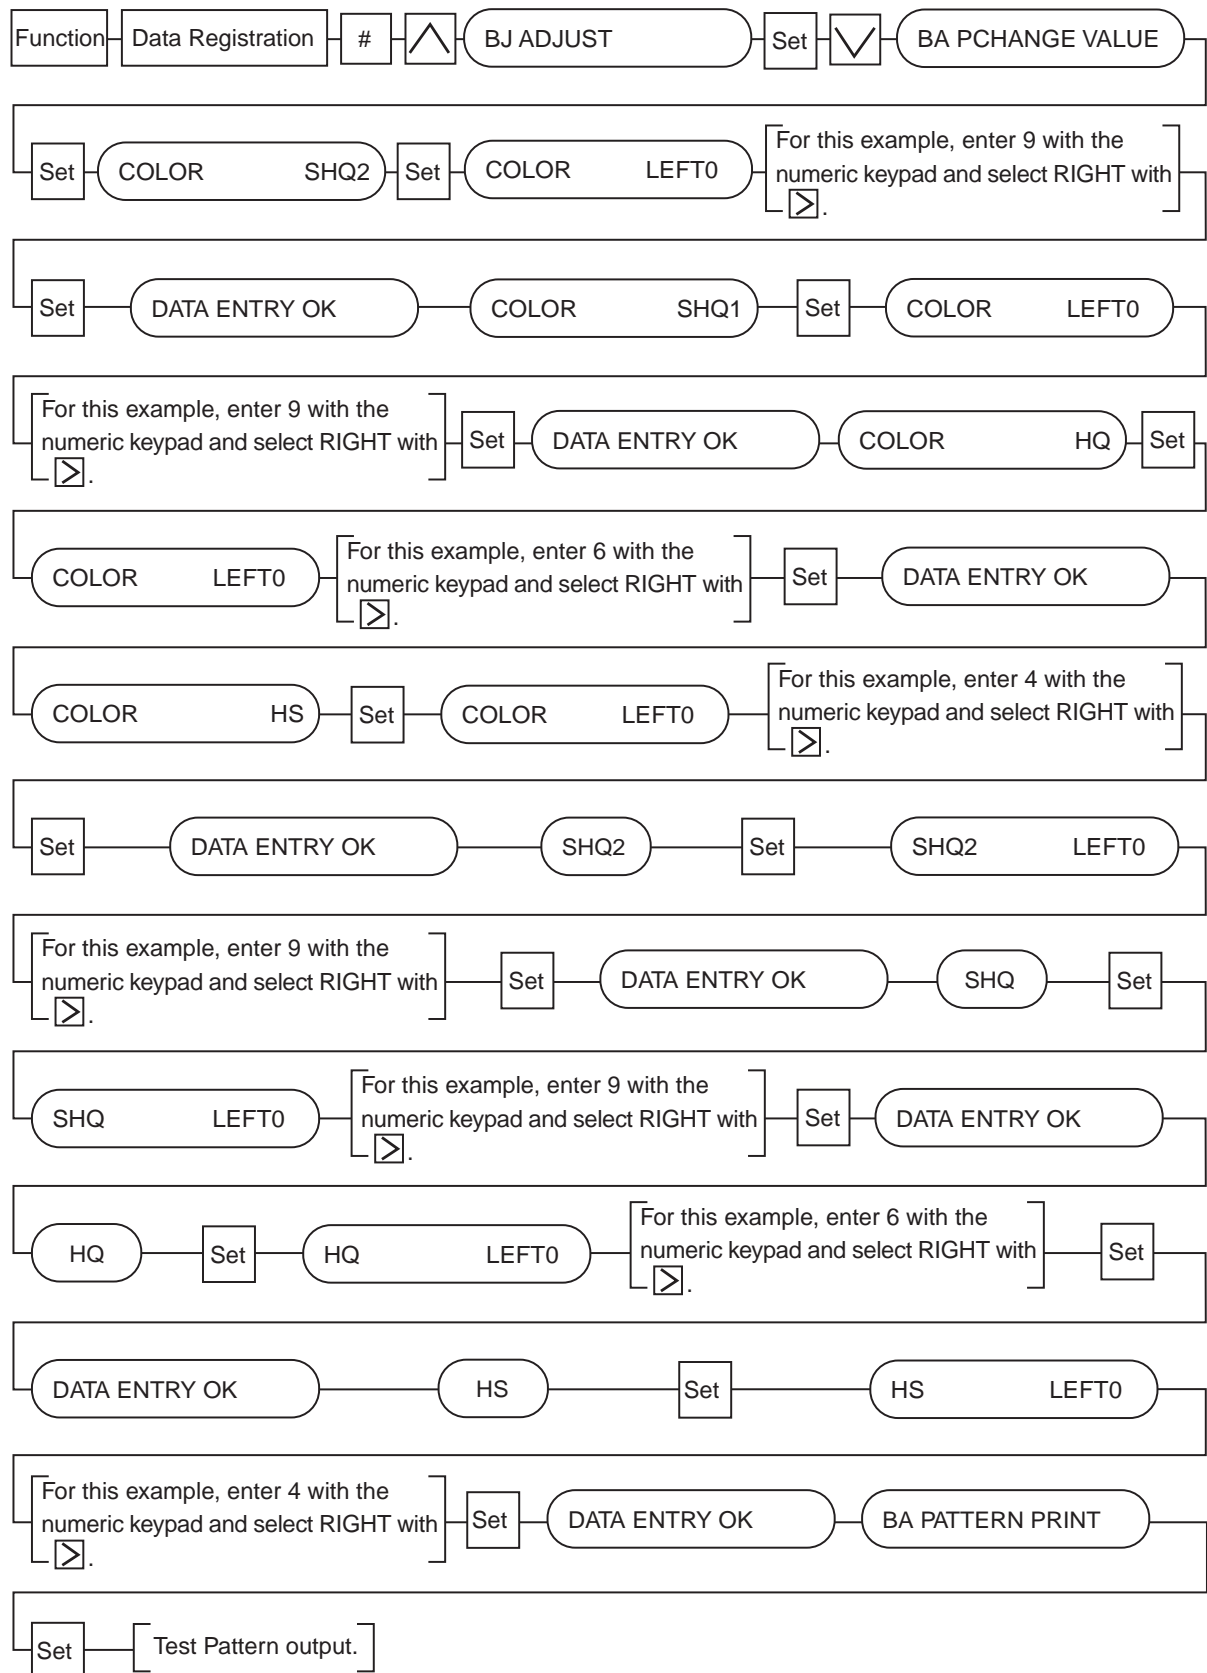

Figure 3-7 Vertical Line Misalignment Correction Procedure
- (3) As shown in *Fig. 3-7*, make the correction for all print mode. (The flowchart shows the procedure for making a 2-dot correction to the right for the all print mode, respectively. The actual display may look different from the figure.)
- (4) After making the correction, print out the test pattern. If there is any misalignment, do the correction again.